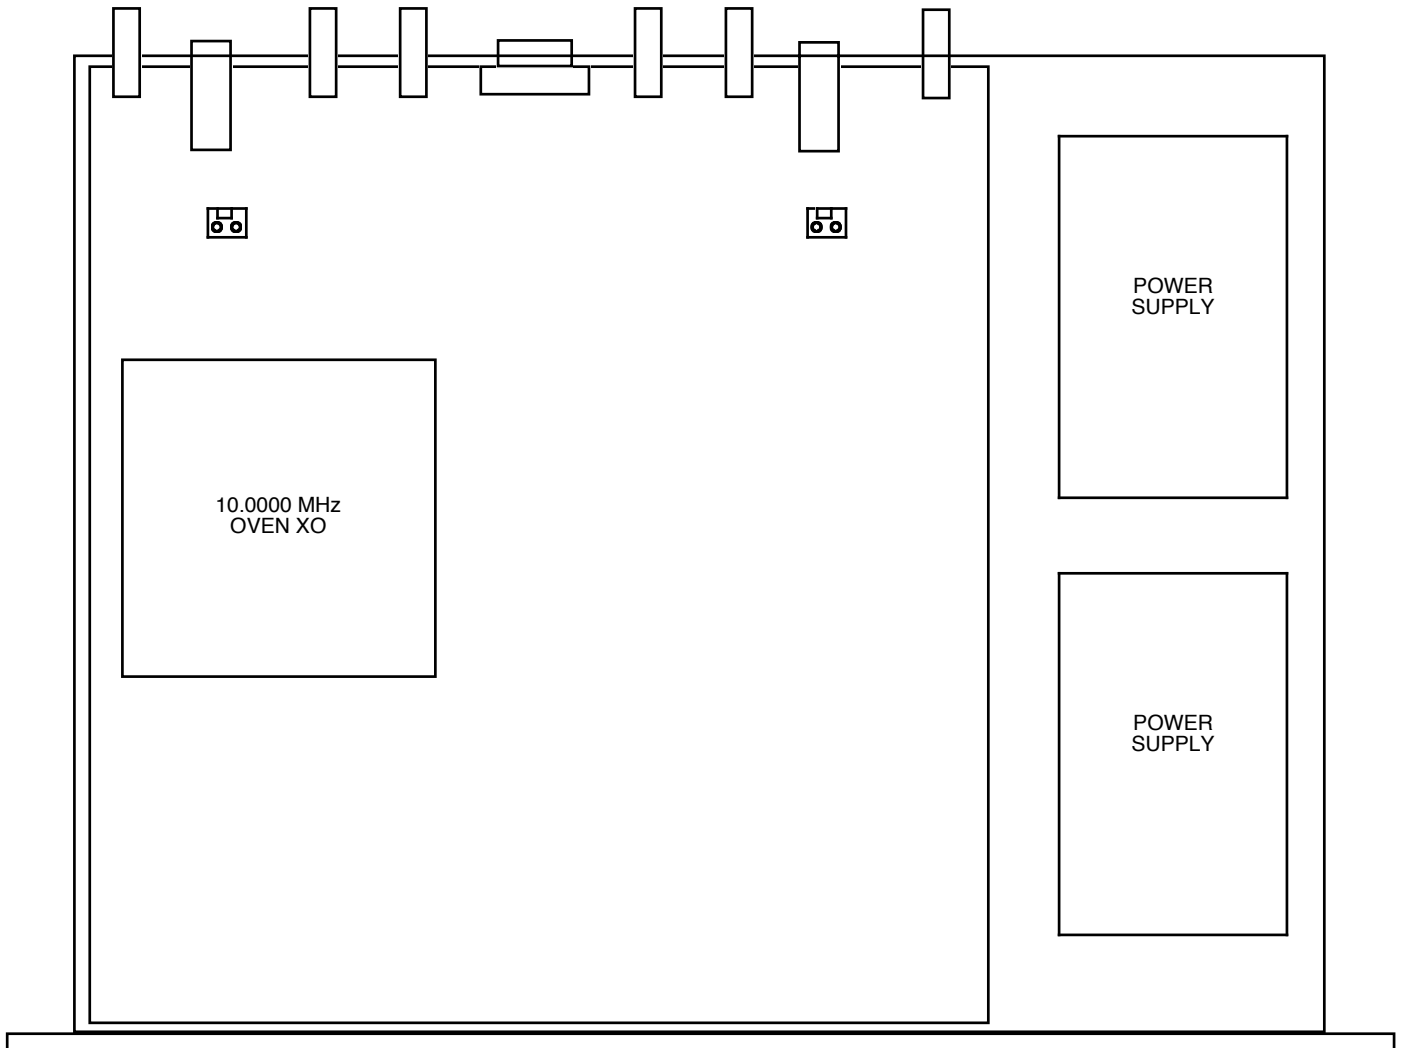

FIGURE 2.0 2099-218 Mechanical Assembly
2.1 Mechanical - The 2099-218 consists of one RF PCB housed in a 1 RU (1 3/4 inch high) by 16 inch deep chassis. A switching, ± 12 , +24, +5 VDC power supply provides power for the assemblies. A separate +24VDC power supply (+48VDC, **option V48**) provides power for the SSPB. The 2099-218 can be secured to a rack using the 4 holes on the front panel. Figure 2.0 shows how the 2099-218 is assembled.